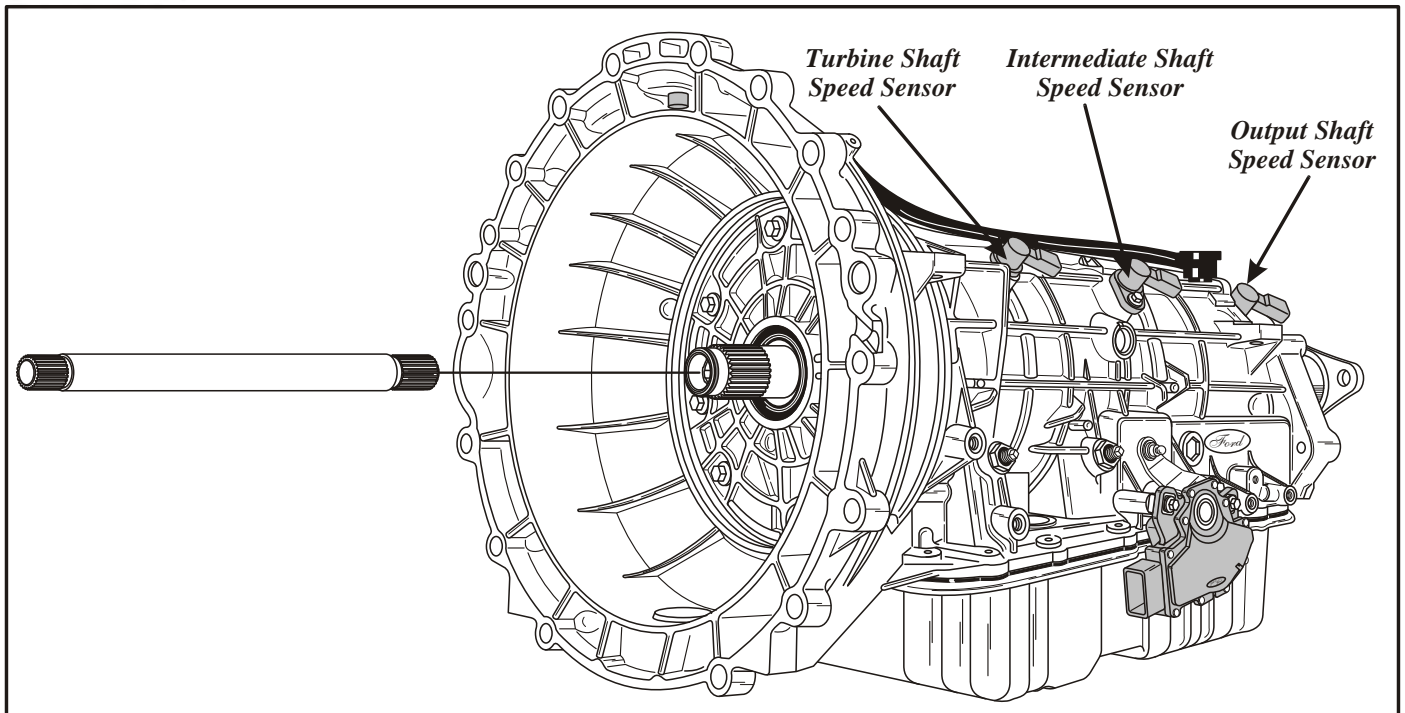

Figure 20
1. Remove the turbine shaft from the transmission as shown in Figure 20. Inspect the spline area on both ends and set aside for final assembly.
2. Remove the Turbine Shaft Sensor (TSS), the Intermediate Shaft Sensor (ISS) and the Output Shaft Sensor (OSS) from the transmission case, using a 30 Torx bit for the retaining bolts. (See Figure 20).